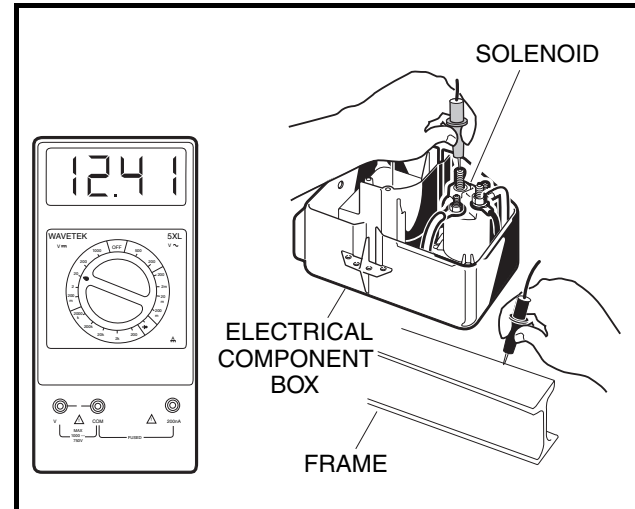

Figure 11-13 Test Solenoid Ground
10. With the Forward/Reverse handle still in the NEUTRAL position, set the multimeter to 20 volts DC and place the red (+) probe on the large post that does *not* have wires connected to it. Place the black (–) probe on the vehicle frame. Turn key switch to the START position and listen for the solenoid click. While holding the key in the START position, the meter should read full battery voltage. If the reading is incorrect, replace the solenoid (**Figure 11-13, Page 11-16**).